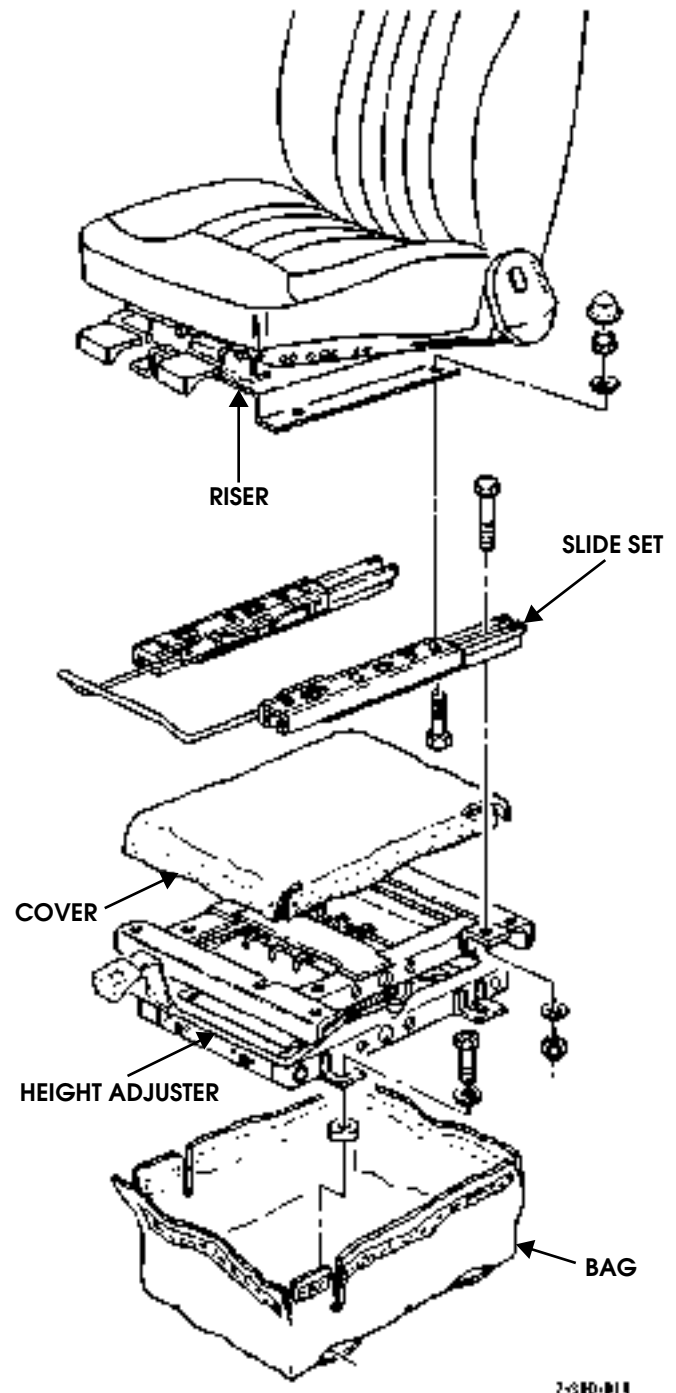

Figure 10-32: Seat Pedestal Assembly Breakdown
2. Remove bag from height adjuster (Figure 10-32).
1. Secure riser to slide set with bolts, lockwashers, and nuts (Figure 10-32). Tighten nuts to 24 lb-ft (33 N•m).